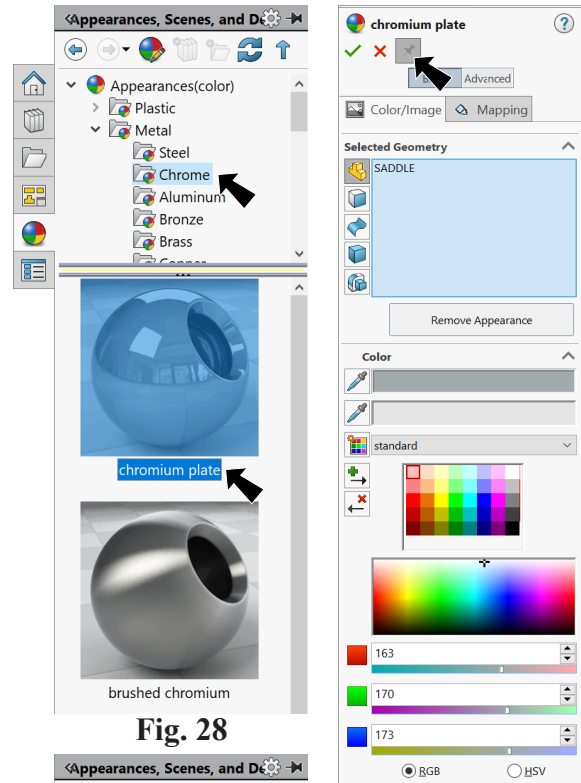

Fig. 28
Step 3. In the Appearances Task pane, expand **Metal** and click **Chrome** and in the lower pane select **chromium plate**, **Fig. 28.**